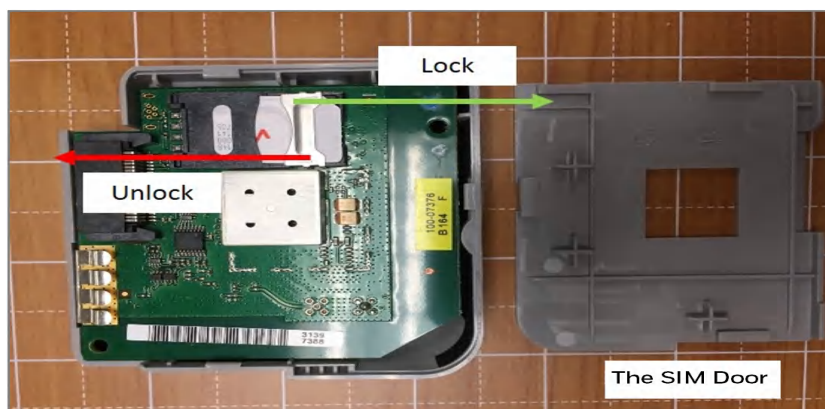

Figure 3.5: Unlock or Lock Movement
5. Find the SIM card holder and slide its door to unlock (see Figure 3.5).
7. Slide the card holder door back and lock it (see Figure 3.5).